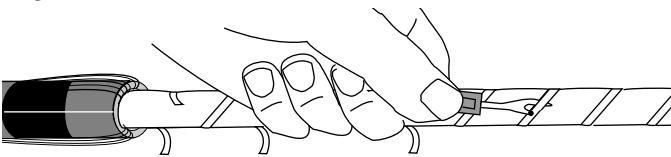

Figure 26
**7.4** Use a seam ripper every 5 cm (2 in.) to cut the single binding tape that secures the water blocking tape to the cable core. **USE EXTREME CAUTION** to prevent buffer tube damage (Figure 26).